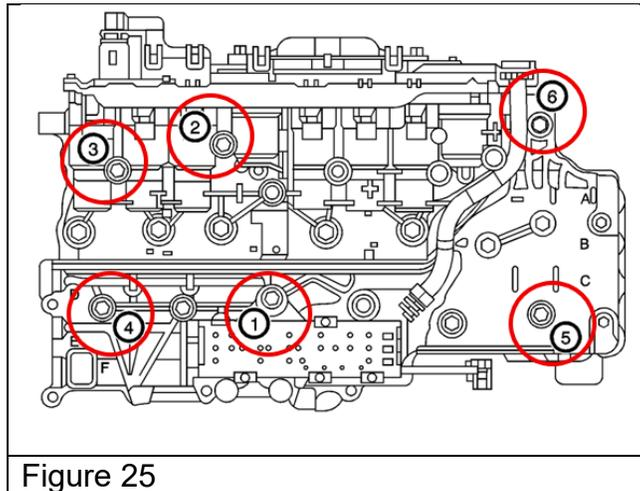

Figure 25
30. Hand tighten the six (6) bolts before the final torque sequence. Torque the six (6) bolts to 8 N•m (71 lb. in). See Figure 25.